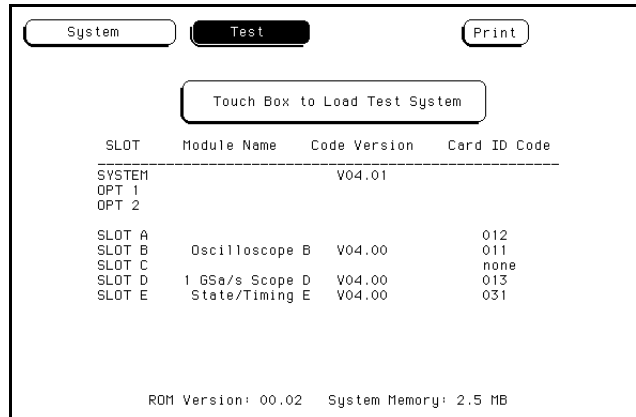

Figure 6-3. Load Test System Screen
4. Touch the box labeled **Touch box to Load Test System**. See figure 6-3.